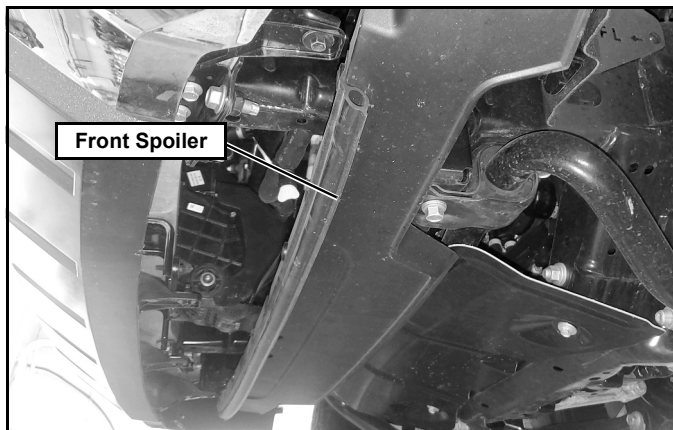

Figure 1
1. Review if the vehicle is equipped with an active front spoiler behind the bumper. (See Figure 1.) If not, skip to step 4.